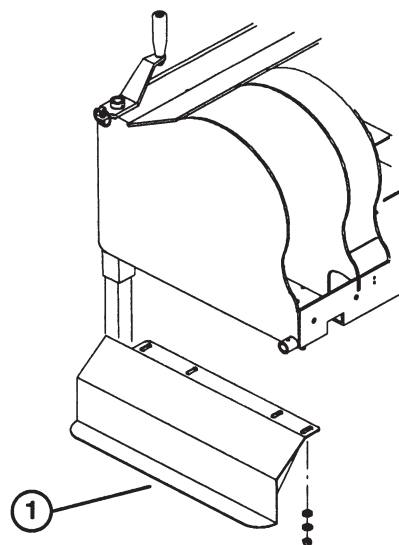

Figure 4
1. Remove the (4) nuts, lockwashers and washers loosely secured to each bottom end of the aerator frame.
2. Position the appropriate side guard (left or right) onto the mounting studs (Fig. 4).